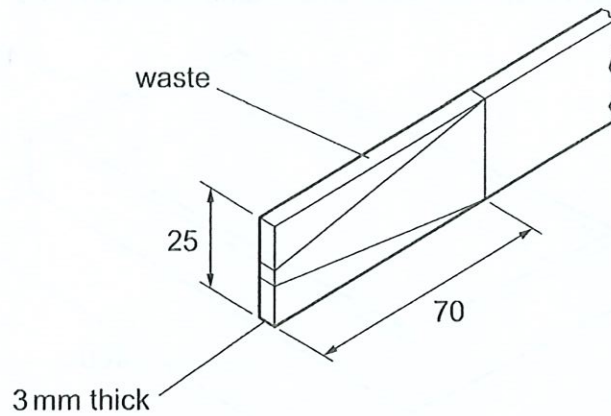

Fig. 7.1
- 7 Fig. 7.1 shows the end of a mild steel strip marked out, ready to be shaped.